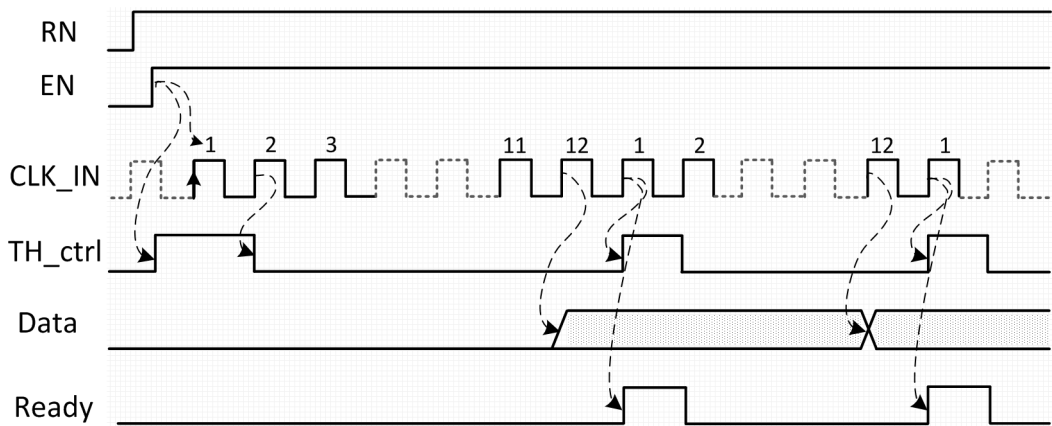

Figure 2: Power on and operation start scenario
After power on the registers in digital part could set in any unknown state, which can cause wrong first run digitization. Also the ready signal could achieve “1” state which could provoke system faults. To overcome this it is recommended to hold low level voltage (logic “0”) at RN input during power on to reset inner registers of ADC’s digital part. Then ADC could be enabled by high voltage level (logic “1”) at EN input. Note, that voltage at RN input should be high level (logic “1”) during normal operation. Recommended operation start scenario is shown in figure 2.
- EN = “1”: Active mode. Analog blocks are enabled; digitization is carried if clock signal while clock signal is fed to CLK_IN input. There are 12 external clock cycles required to perform single digitization, so output data rate is 12 times lower than clock rate at CLK_IN input. After each digitization the Ready signal will appear with pulse width equal to external clock signal cycle (see figure 2). High power consumption